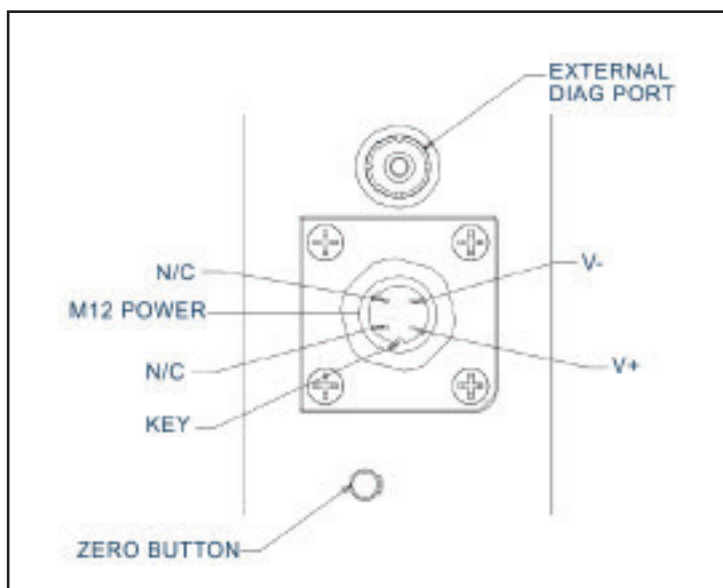

Figure 4-3 SLAMF Hazardous Area device side view with M12 Power connector
- 2.5 mm female jack for RS485 diagnostic port, which is located either under the top cover (SLAMF IP-66 only versions) or under the access screw on the inlet side of the device, just above the M12 power connection (shown in Figure 4-3).
- 4 pin M12 threaded Male (Euro Lock) Connector for power labeled “PWR” (figure 4-3).